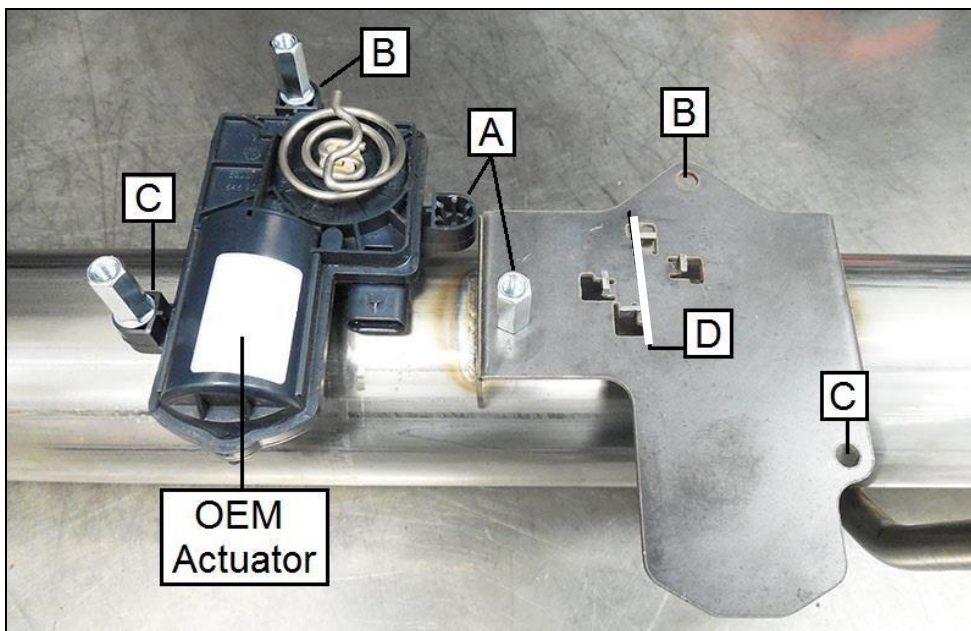

Figure 2
1. Place the Right tailpipe on the work bench with the AEV mounting bracket facing up (**Figure 2**)
2. Install the 2 coupling nuts and washers onto the AEV actuator positions B and C with the 10-32 x 3/4" flange bolts as shown in **Figure 2**. Be sure to install the washer between the actuator and the coupling nut. Do not over tighten the bolts, as the actuator case is plastic.
3. Install the third coupling nut onto the actuator mounting plate position A using a 10-32 x 1/4" flange bolt. Install the bolt from the back side of the bracket as shown in **Figure 2**.
4. Install the coupler spring on to the actuator, making sure the drive spring is centered and firmly locked into the drive on the actuator (**Figure 2**).
7. Place the actuator on to the mounting plate and align positions A, B, and C making sure the drive spring wire is located between the raised tabs on the mounting plate as shown in **Figure 2 reference line D**. Install the 10-32 x 3/4 flange bolt into position A on the actuator and into the washer and coupler nut previously installed on to the mounting plate. Be sure the washer is installed.